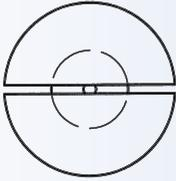
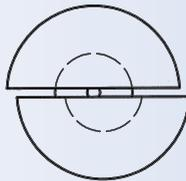

Fig. 10
Fig. 11
**Adjusting:** When a probe is radially bent (Fig. 10) briefly bend with flat pliers directly behind probe-head to other direction (slightly beyond central point because of resilience, Fig.11).